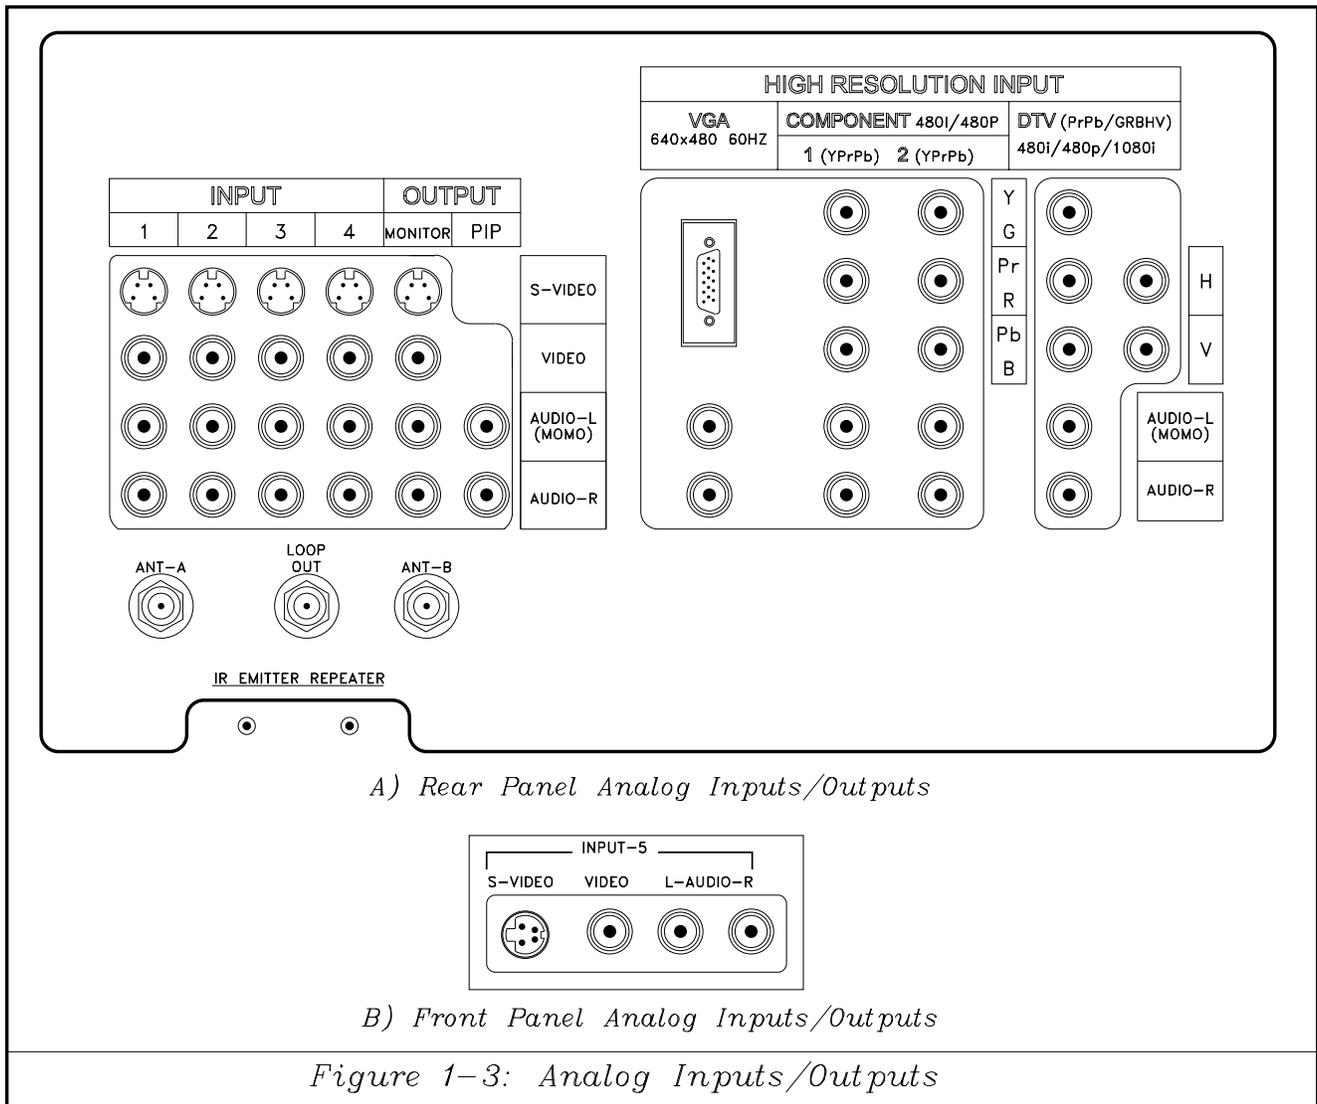

Figure 1-3: Analog Inputs/Outputs
**Analog External Inputs and Outputs** are located both on the rear and front of the TV. *Figure 1-3* shows the External Analog Inputs and Outputs. The DTV Inputs